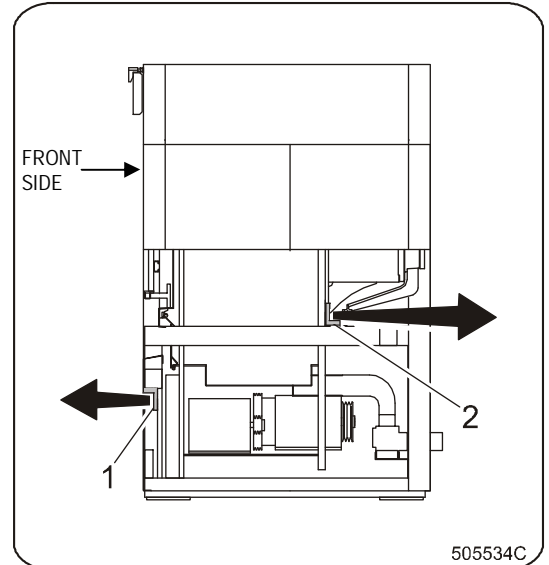

Figure 4.5.A. – Machines 33-40-55 kg / 80-100-125 lb, Transport braces
Before you put the machine into operation, remove the three striking color transport braces securing the vibrating machine components during the transport. One brace (figure 4.5.A., pos.1) is located in the front part of the machine, accessible after removal of the front lower cover. The two braces (2) are placed in the rear machine part, accessible after removal of the rear cover. After removal of the braces, mount the covers back to their places.